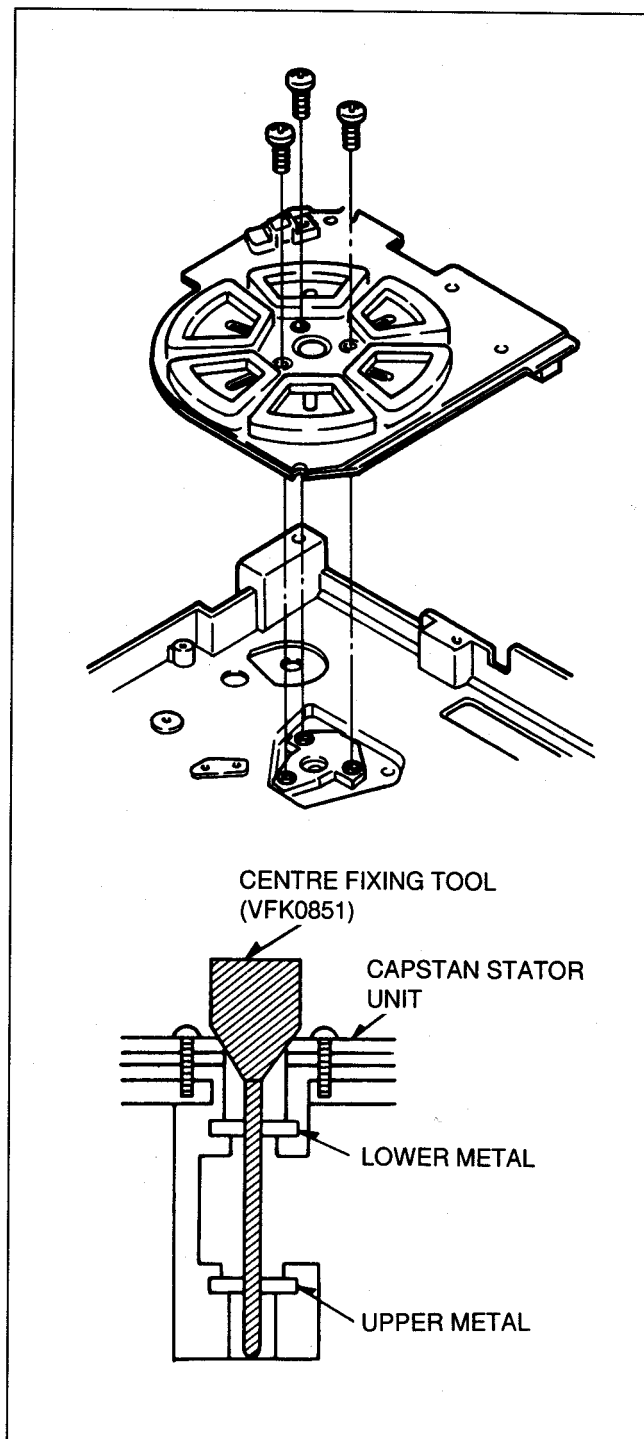

Fig. S8
- 3) Insert the Centre Fixing Tool (VFK0851) as shown in Fig. S8.